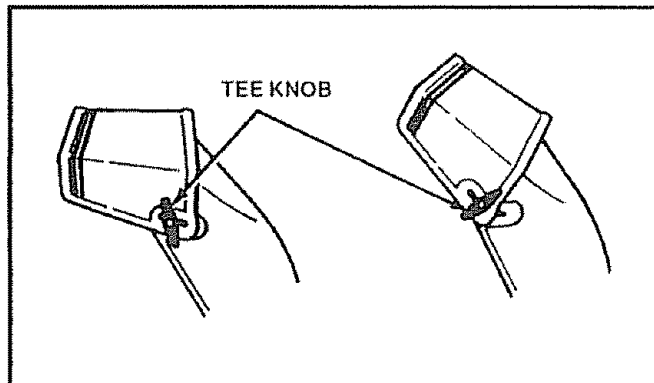

FIG. 5
- Loosen the tee knob on the chute deflector and move the deflector to set the **distance**. Move the deflector **UP** for more distance, **DOWN** for less distance. Then tighten the tee knob (See Fig 5)